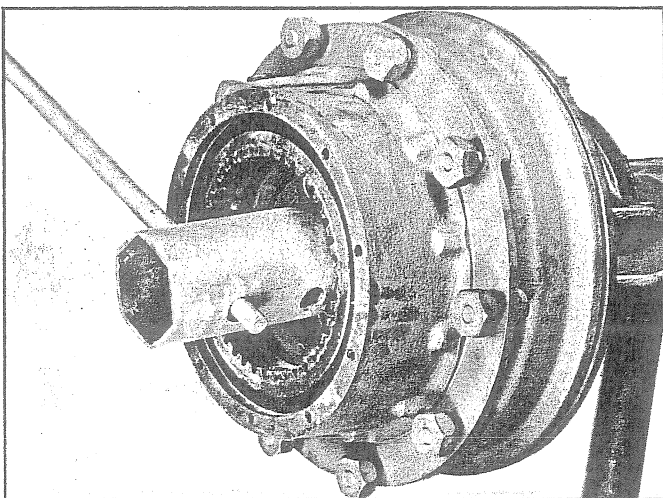

Fig. 80 - Tool used to Remove Spindle Nuts
6. Use special tool, as shown in Fig. 80, and remove the outer spindle nut.
7. Remove the nut lock, then use special tool, as shown in Fig. 80, to remove the inner spindle nut.